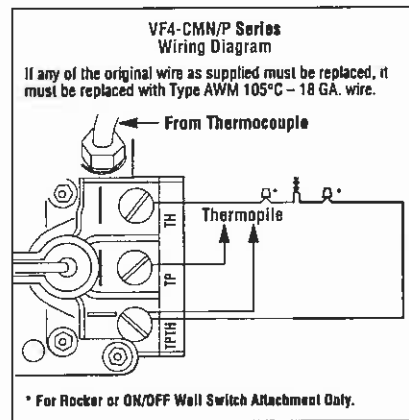
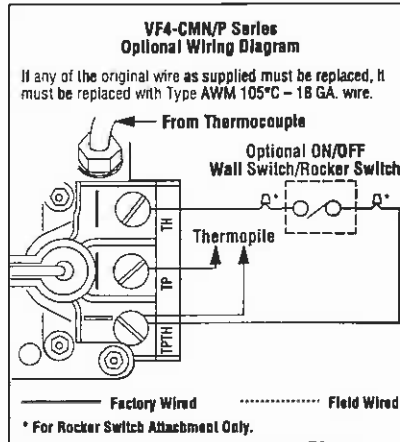

Figure 11
Figure 12
**Step 6. Installing the Optional Remote Wall Switch (VF4-CMN/P models only)** – The millivolt system comes from the factory wired as shown in Figure 11. Select a convenient location for the remote wall switch and connect the wiring to the appliance (Figure 12).
An optional wall switch kit can be installed along with the millivolt controlled appliances. The kit consists of a standard UL wall switch with cover plate. This kit provides for remote (wall) operation of the appliance. Replace the wall switch and cover plate of this kit with the components of the RCK and you can have true remote control of your vent-free appliance, turning it on and off from your favorite easy chair. The wall switch kit should be installed along with the appliance. Refer to *Figure 12* and Step 6 for detailed installation instructions.